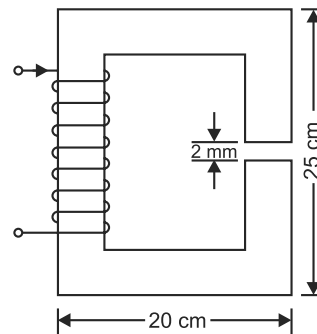

Fig. 8.21
8. A rectangular magnetic core shown in Fig. 8.21 has square cross section of area  $16 \text{ cm}^2$ . An air gap of 2 mm is cut across one of its limbs. Find the exciting current needed in the coil having 1,000 turns wound on the core to create an air-gap flux of 4 mWb. The relative permeability of the core is 2000. [4.713 A]